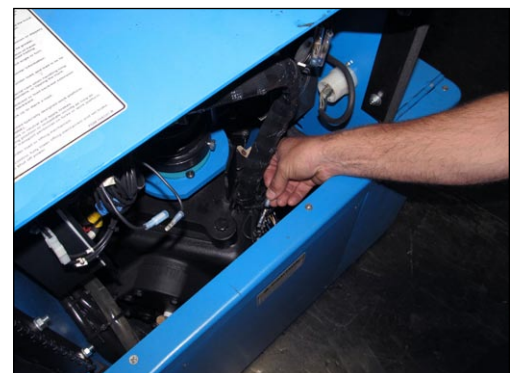

Figure 4.3
5. Connect bottom right wires (figure 4.3)